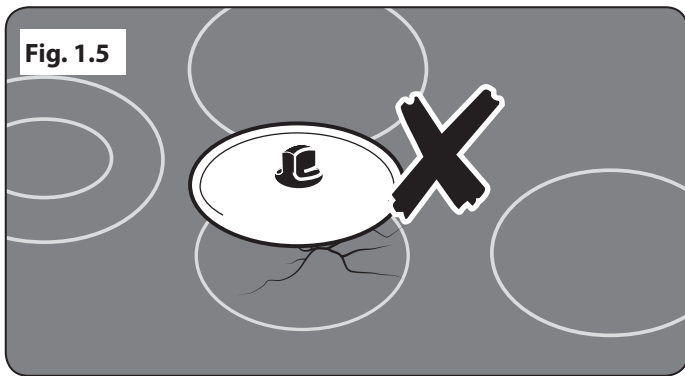

Fig. 1.5
- Take care **NOT TO PLACE HOT LIDS** onto the hob surface (**Fig. 1.5**). Lids that have been used to cover a hot pan can “stick” or create a “vacuum” effect to the Glass Hob. Should this occur, **DO NOT** attempt to lift the lid off the glass surface, this may damage the glass. Instead slide the lid to the edge of the hob surface and remove, taking care not to scratch the hob surface. Alternatively wait until the lid has cooled to room temperature, the vacuum has been released, then remove the lid by lifting it from the hob surface.